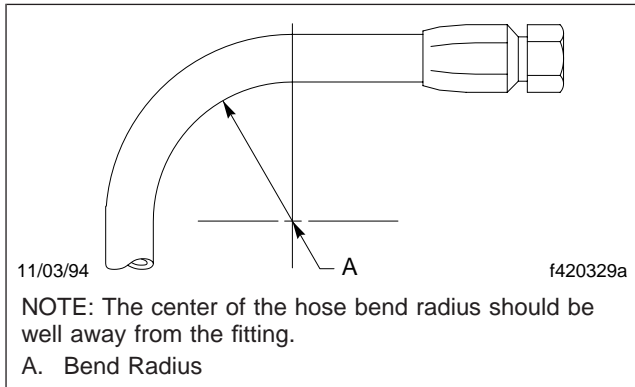

Fig. 8.10, Bend Radius
- 26.9 Check the bend radii of all hoses. See **Fig. 8.10**. The minimum bend radius of a hose is that bend which the hose will withstand without experiencing damaging stresses or kinking. For minimum bend radius values, see **Group 42** of the *School Bus Chassis Workshop Manual*.